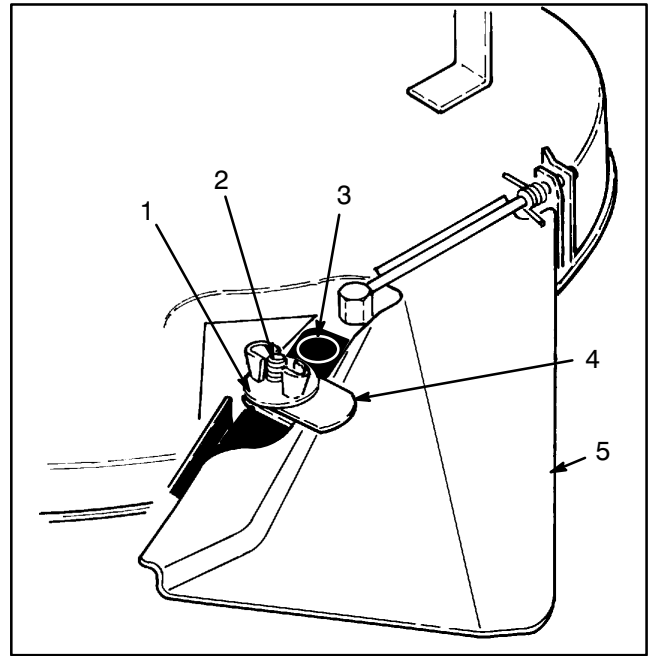

Figure 7
INSTALLING DISCHARGE COVER (Fig. 7)
2. Place metal tab on long bolt as shown in Figure 7.